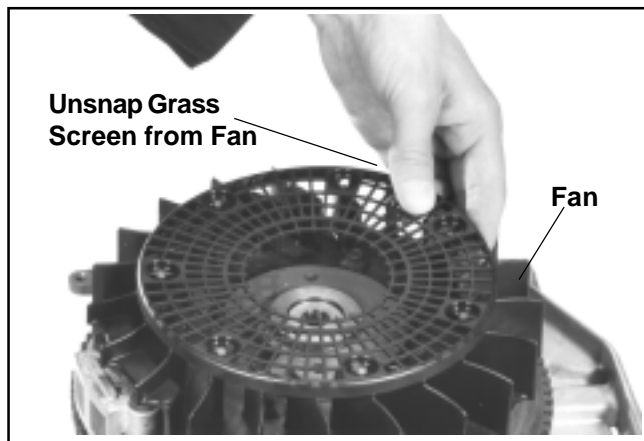

Figure 9-32. Removing Plastic Grass Screen.
2. Remove the grass screen from fan. See Figure 9-32.
2. Remove the screen by unsnapping it from the fan. See Figure 9-32.